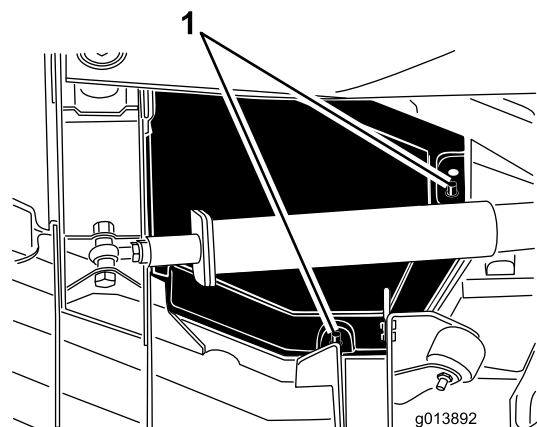

Figure 47
- Lift the rear and inside cover edges off the mounting posts (Figure 47).